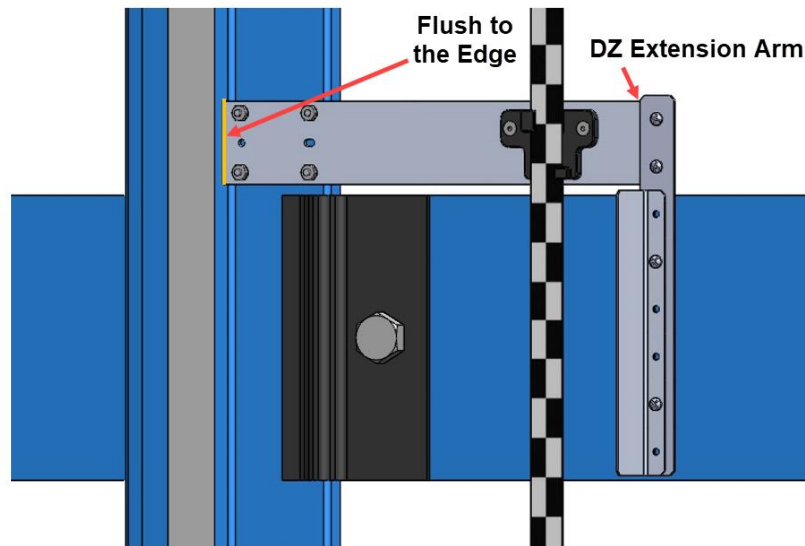

Figure 100: Tape Clip Assembly Alignment
- Install the door zone extension arm using the same screws, nuts, and washers (See Figure 100).